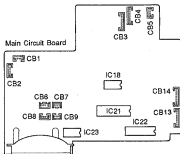

Fig. 9
9. Remove connectors CB6, 7, 8 and 9 (Fig. 9) from the Main Circuit Board and also remove 5 binding ties from both sides of the Chassis.